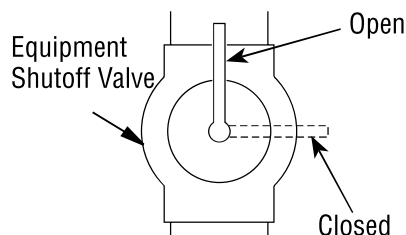

Figure 15 - Equipment Shutoff Valve
1. Close equipment shutoff valve (see *Figure 15*).
1. Open equipment shutoff valve (see **Figure 15, Page 15**).